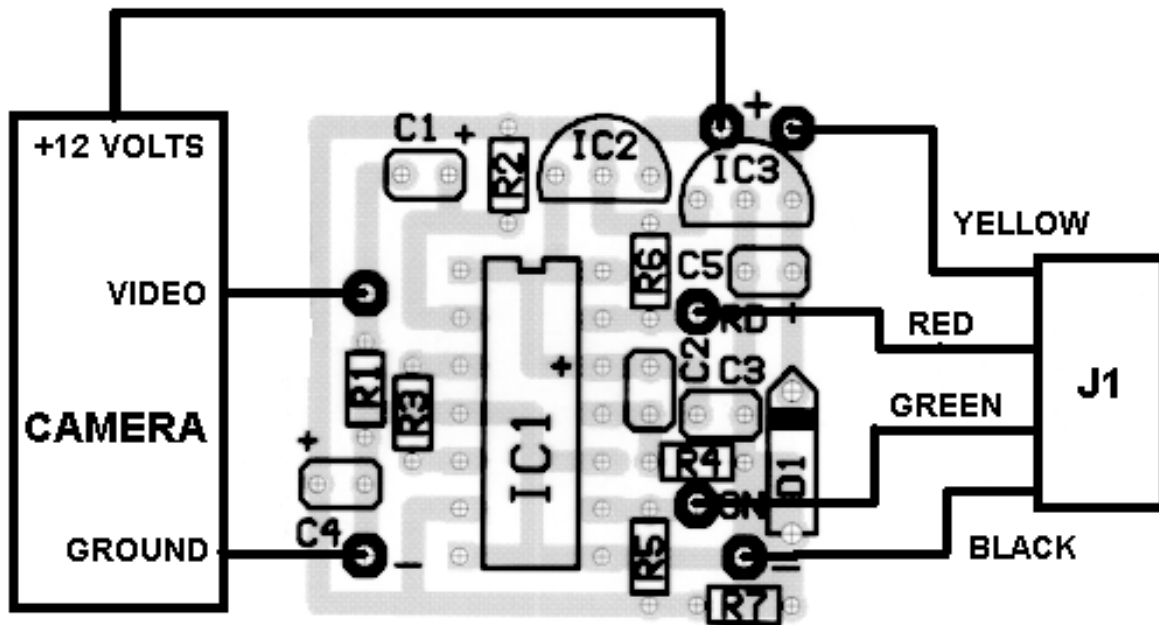

FIGURE 3
The send circuit is assembled on a 1.2 X 1.2 inch single sided printed circuit board. The positive side of C2 goes near R6 and the positive side of C3 goes near C2. Solder the camera power and video leads onto the board as shown in figure 3. To allow flexibility of board placement, RJ11 jack J1 has wire leads and is not mounted on the board. Cut the J1 leads about 2 inches long and solder them onto the board with the green wire to IC1 pin 9 and the red wire to IC1 pin 13. The black wire goes to - and the yellow to +. Since video cameras vary in size and shape, an appropriate enclosure must be chosen for the send board and type of camera used. A hole must be cut in the enclosure for the camera lens to fit through and another for J1.
voltage being dissipated within it. If everything tests good install the board in the enclosure. Be sure a camera or dummy load is connected to the send board and R22 is turned fully counterclockwise. Plug one end of a telephone wire with RJ11 plugs attached into J1 on the send board and the other end into J2 on the receive board. The wire should have RJ11 plugs attached as shown in figure 3. Flat telephone wire can be purchased with RJ11 plugs already crimped on both ends. If one of these wires is used, it should be of the "straight through" type so that the positive terminal of the send board connects to the positive terminal of the receive board. Measure the voltage across D1 and if necessary, adjust R22 until you get 12 volts across it. If you measure -.8 volts across D1 this means that one of the RJ11 plugs must be reversed. Cut one of the plugs off, turn the wire over and crimp another plug on. Measure the voltages at the outputs of IC2 and IC3 using the anode side of D1 which is ground in the schematic as a voltage reference. If everything tests good continue with the adjustments.
2. Insert and solder all capacitors being careful to insert them with the correct polarity. The long lead is the positive + side of most capacitors but some have both leads of the same length. Polarity is also marked on the capacitors. Polarity is marked on the circuit board and is shown in figure 3. The positive side of C2 goes near R6 and the positive side of C3 goes near C2.
3. Insert and solder D1 with its cathode band as shown on the circuit board and in figure 3.
4. Insert and solder IC2 and IC3 with their flat sides as shown on the circuit board and in figure 3.
5. Insert and solder IC1 with pin 1 toward the notch as shown on the board and in figure 3.
6. Cut the J1 leads to about 2 inches long and strip about 1/4 inch of insulation. Solder them onto the send board with the green wire to IC1 pin 9 and the red wire to IC1 pin 13. The black wire goes to - and the yellow to + as shown in figure 3.
7. Insert and solder the camera leads as shown in figure 3. A 100 ohm 2 watt dummy load resistor may be temporarily used in place of the camera. If the dummy load is used, leave the leads long and solder them in place of the camera +12 volt and ground leads.